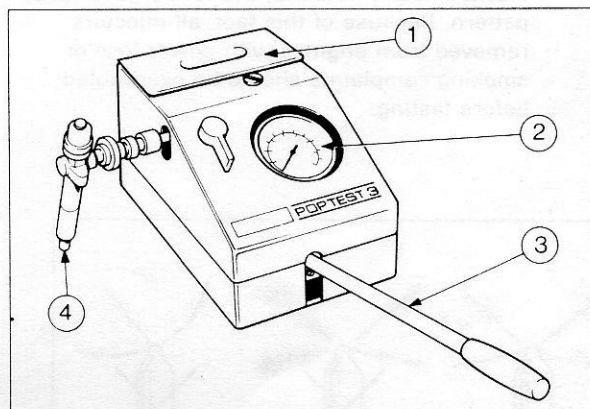

Fig. 12. - Typical Injector Tester
2. Remove the protective cap and connect the injector to the tester (Fig. 12). Carefully wipe the nozzle completely dry.